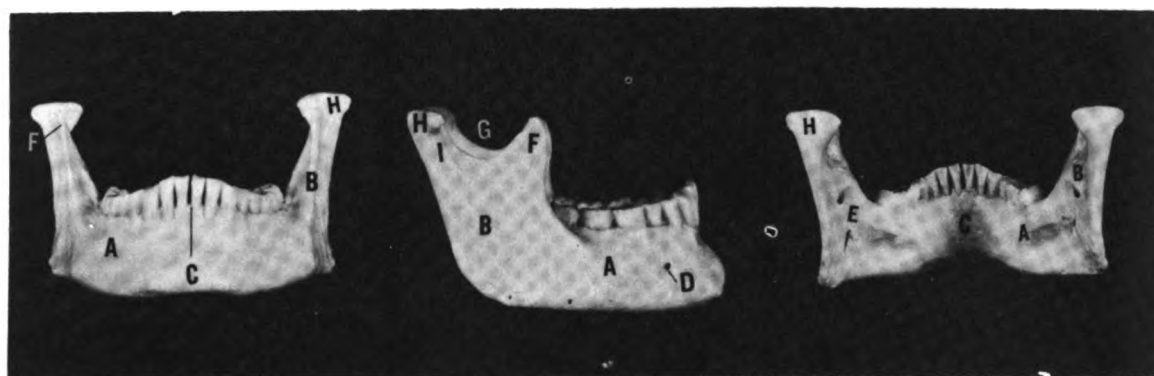

Figure 4-33 Mandible - AP, Lateral and PA Views
The biggest bone of the face is the mandible. It is the lower jaw. It has a body (A) and two rami (B). The mandible, just as the maxilla, has an alveolar process. The mandible is sometimes separated in the midline by a suture, but generally this is not open for long after birth. It is known as the MANDIBULAR SYMPHYSIS (C). On either side of the body is a foramen. This foramen is the MENTAL FORAMEN (D). This foramen is an outlet for a canal known as the MANDIBULAR CANAL (E). On X-rays this canal can be seen as a dark line running along the body (Figure 4-33).